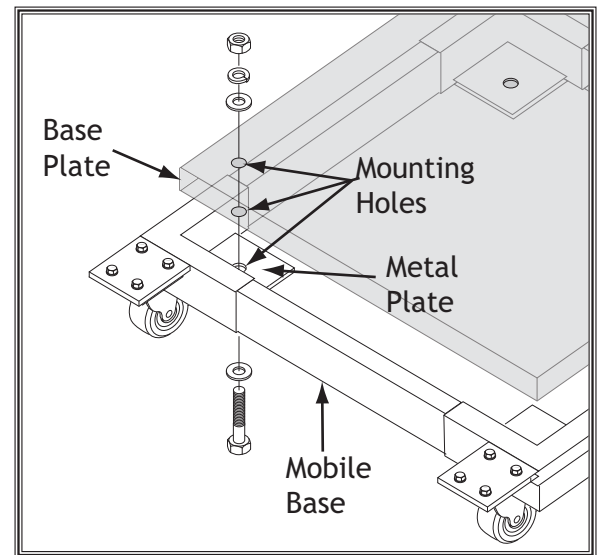

Figure 31. Mounting base plate to mobile base.
6. Secure the base plate to the mobile base with hex bolts, hex nuts, flat washers and lock washers, as shown in **Figure 31**.